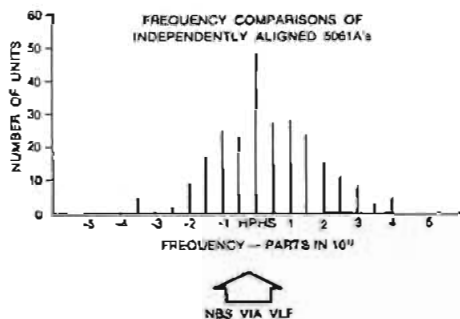

Figure 2. Frequency of independently aligned 5061A Cesium Beam Standards with standard beam tube.
**Cesium standard accuracy:** the cesium beam standard is a primary frequency standard. A cesium beam tube carefully constructed along with the required supporting electronics will, when independently aligned, put out the correct frequency within very narrow limits. The frequency spread of the output for over 250 independently aligned 5061A standards with the standard beam tube is shown in Figure 2. It can be seen from this data that the frequency perturbations in the standard beam tube are so small that all the units are within  $\pm 5 \times 10^{-12}$  of each other and of the NBS frequency. The one signal standard deviation is  $1 \times 10^{-13}$  between units. This performance is intrinsic to the 5061A and is achieved without calibration. The absolute accuracy, intrinsic reproducibility and absence of any perceptible long-term drift or aging are important advantages of cesium standards and assure that the output frequency of a cesium standard is always within the specified accuracy.